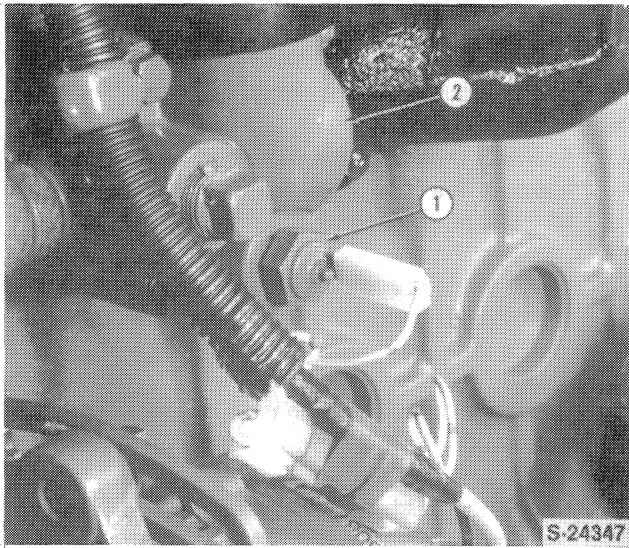

Figure 16
8. Remove the thermostat housing (2) and thermostat, Figure 16.